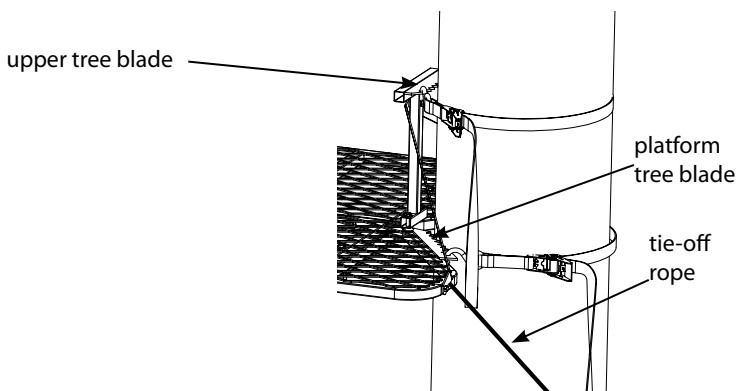

Figure 5b: Applies to RE623 and RE624
5. **For RE623 and RE624 ONLY:** Repeat step 4 for second tree blade attachment by placing "S" hooks through holes provided on second tree blade. **SEE FIGURES 5b, 6, AND 7.**